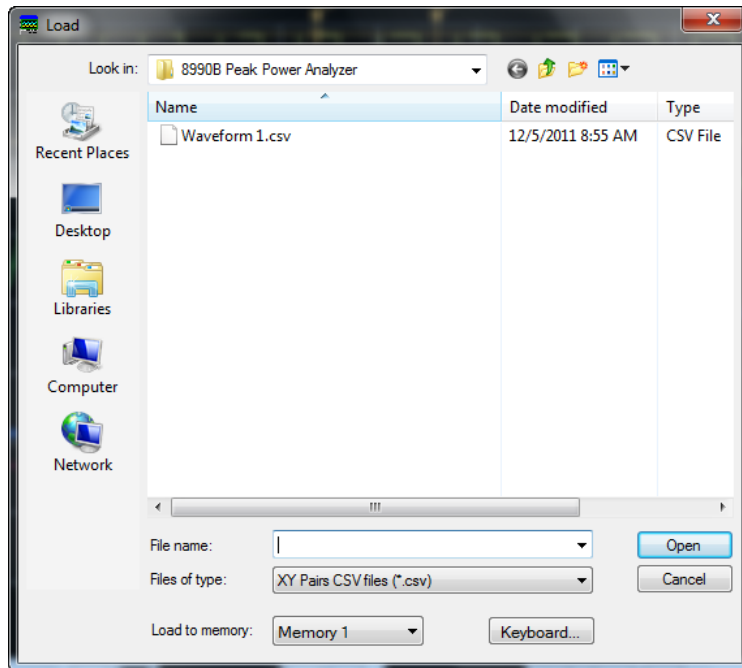

Figure 2-48 Load waveform from file
- 6 The Load Waveform dialog is displayed as shown in Figure 2-48. You can select the waveform memory for the waveform data file to load into by selecting the **Load to memory** to display the waveform memory list.